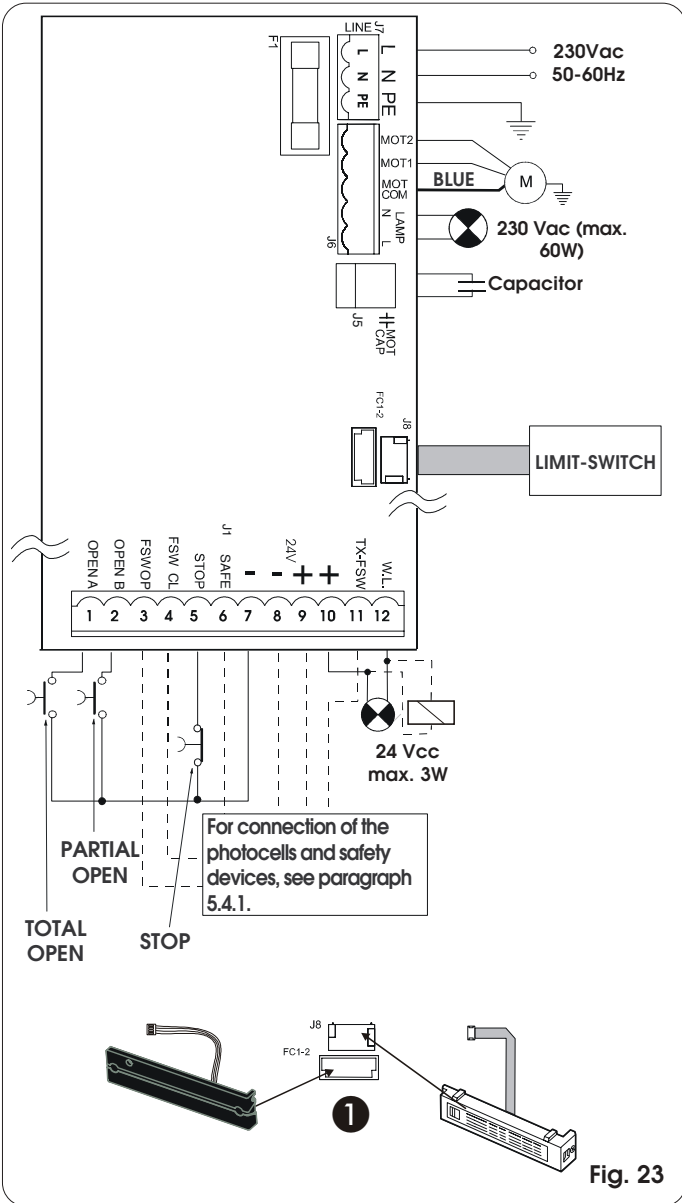

Fig. 23
5.4.2. J7 Terminal board - Power supply (fig. 23)
5.4.3. J6 Terminal board - Motors and flashing lamp (fig. 23)
5.4.4. J1 Terminal board - Accessories (fig. 23)
Quick-fit connector for connecting the limit-switch. For connecting both the MLS limit-switch and the inductive limit-switch (fig. 23 ref. ❶) to the equipment.